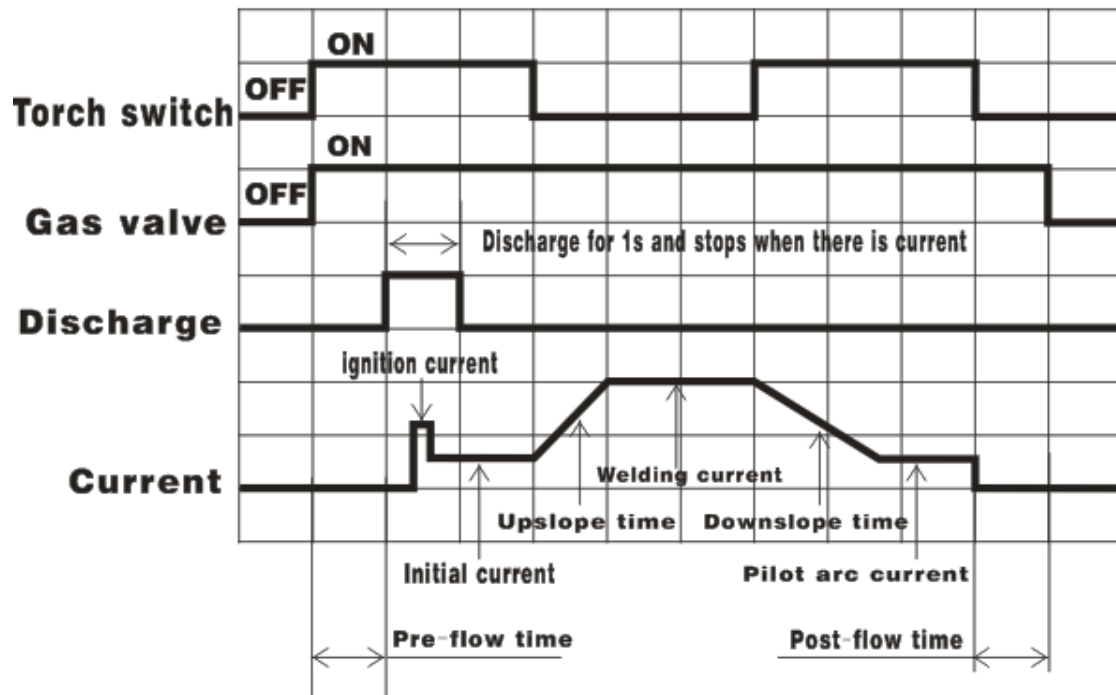

Fig 3-3 4T operation
2) 4T operation as shown in Fig 3-3